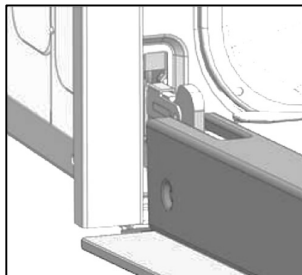

Figure 7
- Open the door to the full extent (Figure 7)